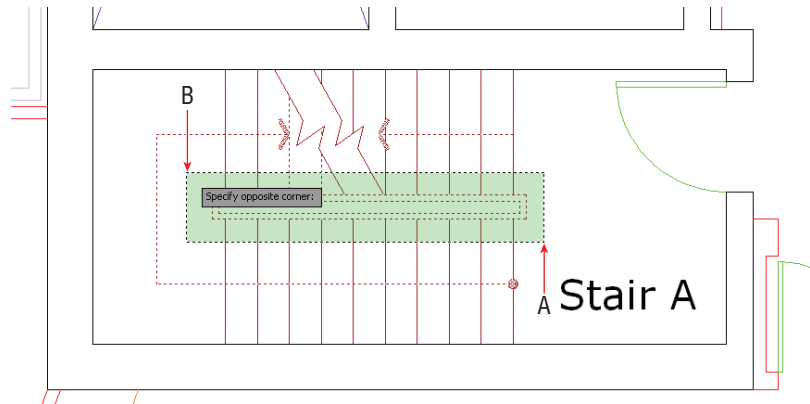

FIGURE 4.3 Drawing a crossing window to remove objects from the selection set
6. Click point A and then B, as shown in Figure 4.3. When you click the first point on the right (A) and move the cursor to the left (at B), a transparent green *crossing window* appears between the points. Whatever the green window crosses is selected. The crossing selection removes the handrail and two of the stair treads because the selection was made at the Remove objects: prompt.